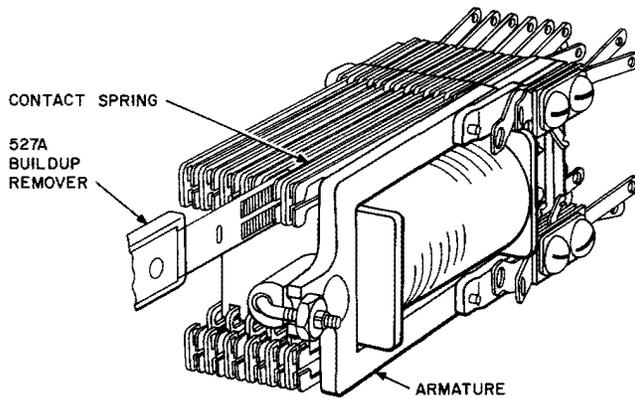
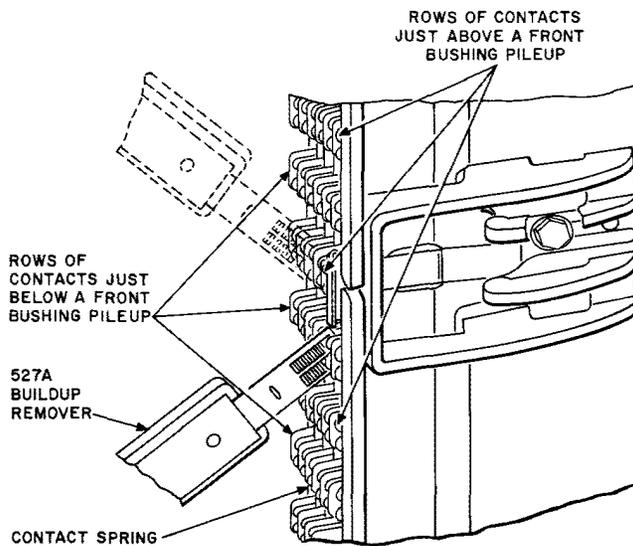

Fig. 33—Method of Removing Buildups From U- and Similar-Type Relay Contacts
Fig. 34—Method of Removing Buildups on 245- and Similar-Type Relay Contacts
5.06 Except for contacts of tungsten and No. 4 contact metal which are covered in 5.12 and 5.13 and contacts on wire-spring relays which are covered in 5.09, the procedures for removing buildups are as follows: Place the proper blade of the 527A build-up remover over the contact from which the buildup is to be removed. Exercise care when inserting the blade between the contacts to avoid applying pressure which may force the contact off the spring. In the case of bifurcated springs, make sure that both contacts are seated in the two slots in the mask of the 527A build-up remover. Hold the build-up remover so the blade is approximately parallel to the center line of the spring as shown in Fig. 33 except in the case of the bifurcated springs on 245-, 254-, 263-, and 264-type relays. In these cases, hold the blade at an angle of approximately 30 degrees with the horizontal center line of the spring, so the tip of the build-up remover is pointed toward the pile-up as shown in Fig. 34. This will prevent long strokes of the build-up remover which would remove excessive contact metal.